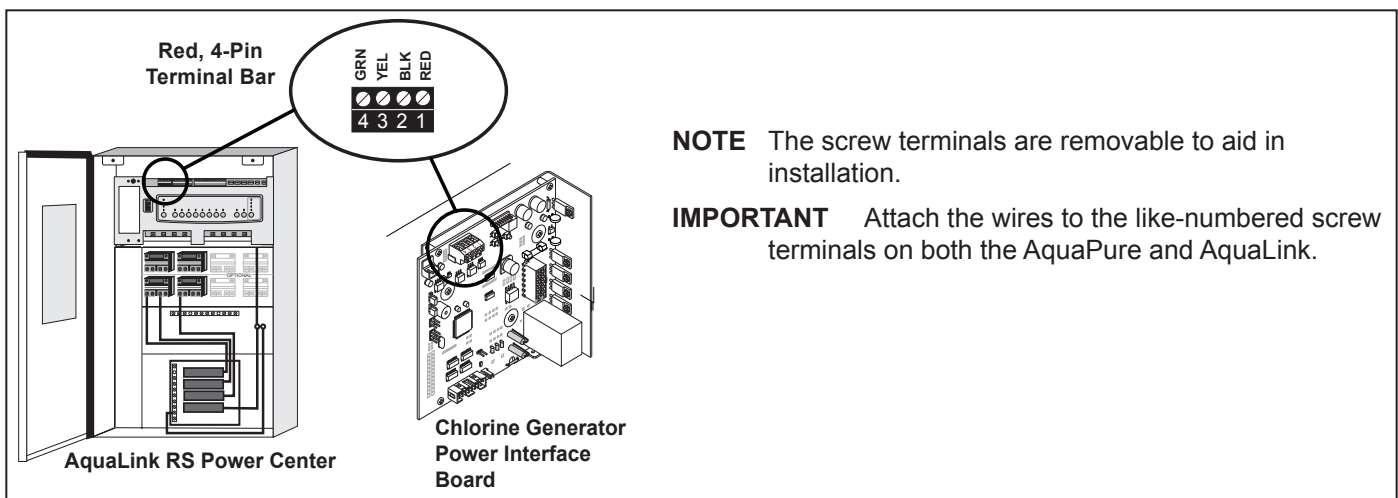

Figure 15. Communication Connection between AquaPure Control Center and AquaLink Control System
The Jandy AquaLink and AquaPure use a four (4) wire connection to communicate. Any outdoor rated four (4) conductor cable, minimum 22 AWG, can be used. Locate the appropriate screw terminals on the circuit board according to Figure 15. Wire the AquaPure from the red 4-pin terminal bar to the AquaLink red 4-pin terminal bar (see Figure 15).